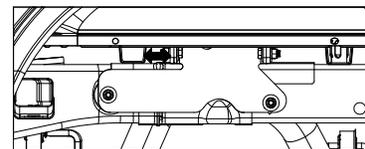

Figure D1: Driver side of truck frame inside the wheel well.
- 2. Square the hitch.** With a tape measure, check the distance between the Turnoverball hitch and the nearest bed cross member. The distance between the hitch and the cross member should be consistent on the passenger side and the driver side of the hitch, see Figure D1. Adjust hitch until the hitch and the bed cross member are the same from side to side.